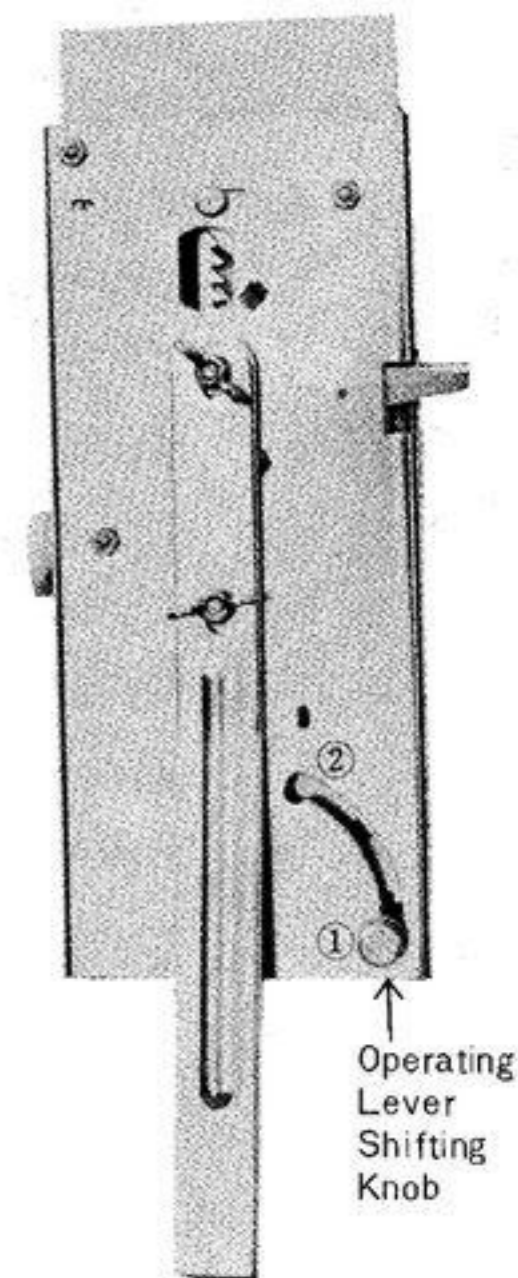

Fig. 65
Changing Operating Levers. Fig. 65
Operating Lever. (see Fig. 65)
O.L. indicates "1" Bring into action the No. 1 Operating Lever. (see Fig. 65)